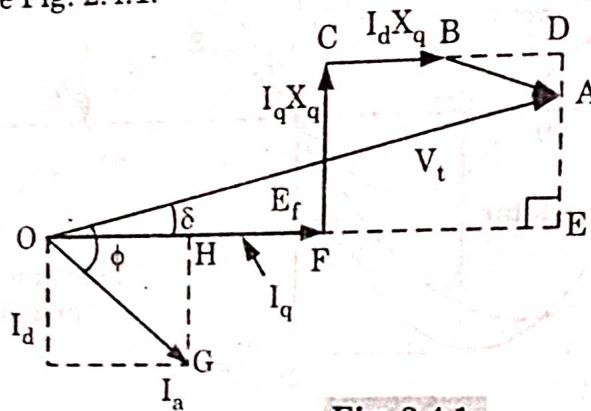

Fig. 2.4.1.
1. The phasor diagram for a lagging pf salient pole synchronous motor is shown in the Fig. 2.4.1.